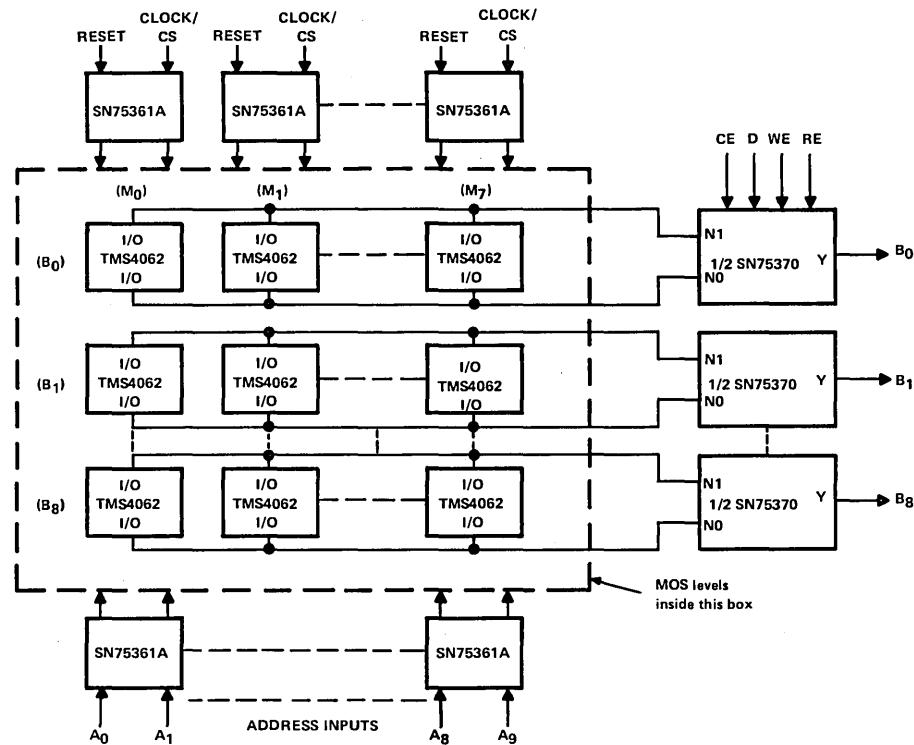

FIGURE 30-BLOCK DIAGRAM OF TOTALLY TTL-COMPATIBLE 8K X 9-BIT MOS-MEMORY SYSTEM USING SN75370, TMS4062, AND SN75361A
Figure 30 illustrates a typical MOS memory system using SN75370, TMS4062, and SN75361A. All inputs and outputs from this system are TTL-compatible. The SN75361A is a high-speed monolithic dual TTL-to-MOS driver. The address SN75361As select a cell in each of the 72 TMS4062s. In Figure 30 the I/O terminals of the eight TMS4062 RAMs in each row have been connected to the node terminals of the associated SN75370 channel. Time multiplexing of the column of RAMs (M) by the SN75361A Clock/CS and Reset drivers is then used to write into or read from the cells that have been selected by the address SN75361As.